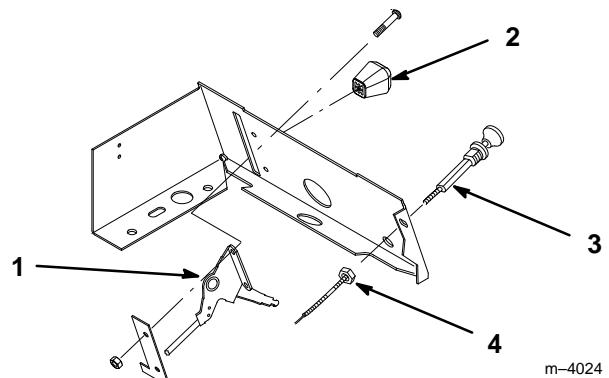

Figure 1
1. Remove existing throttle and choke cables from tractor (Fig. 1).
3. Remove jam nut from new choke cable (Fig. 1).
4. Route throttle lever through rear of dash and secure with screws previously removed. Press knob onto throttle lever (Fig. 1).
5. Route choke cable through front of dash and secure with jam nut previously removed (Fig. 1).